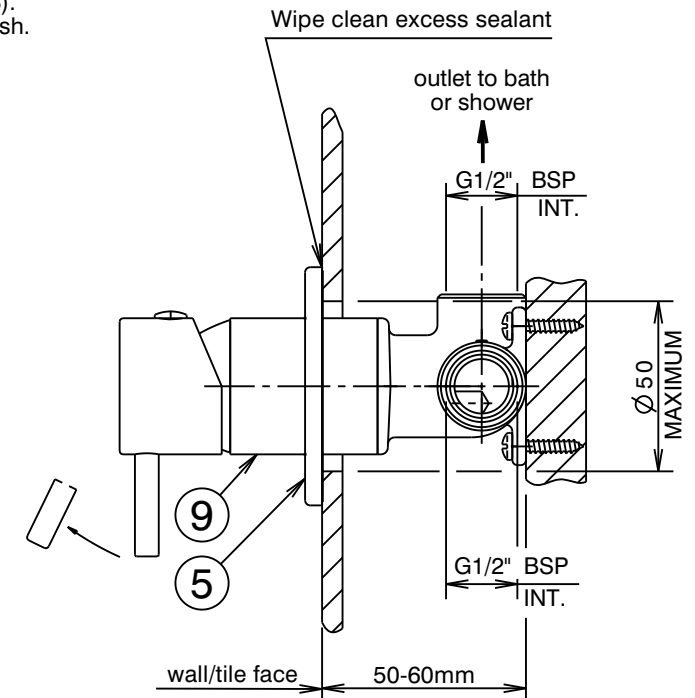

Fig. 1
Installation (Fig. 1 & 2)
- * Mixer body (9) must be installed square to wall/tile face, to ensure cover plate (5) sits flush.
- 2) **Trim kit:** Apply a suitable clear sealant to the back face of the cover plate (5), leaving an unsealed section at the bottom for drainage. Carefully fit the cover plate (5) onto the mixer body (9). Push the cover plate (5) firmly against the wall/tile face. Wipe clean any excess sealant from the chrome surfaces & the wall/tile face (See Fig. 1).
- 3) Fit handle (1) taking care that it is pushed fully onto cartridge stem, then tighten grub screw (2) using the 2.5mm allen key (3). Fit plug (4), taking care not to damage the decorative finish.